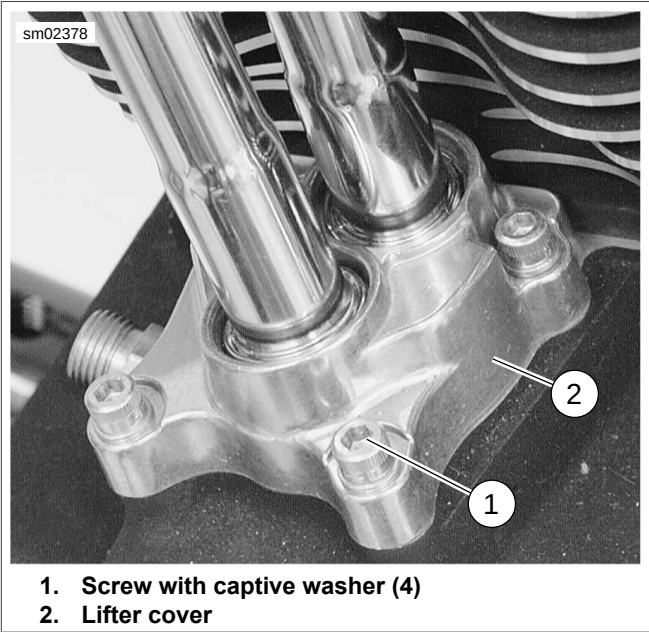

Figure 3-24. Lifter Cover
2. See Figure 3-24. Remove lifter covers.
- a. Using a crosswise pattern, remove four screws (1).
- b. Remove the lifter cover (2) and gasket. Discard gasket.